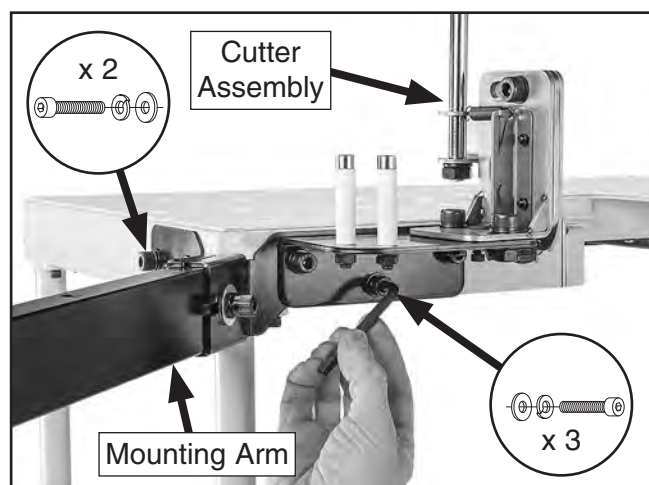

Figure 7. Attaching mounting arm and cutter assembly to work table.
2. Attach mounting arm and cutter assembly to work table using (5) M8-1.25 x 20 cap screws, (5) 8mm lock washers, and (5) 8mm flat washers (see **Figure 7**).